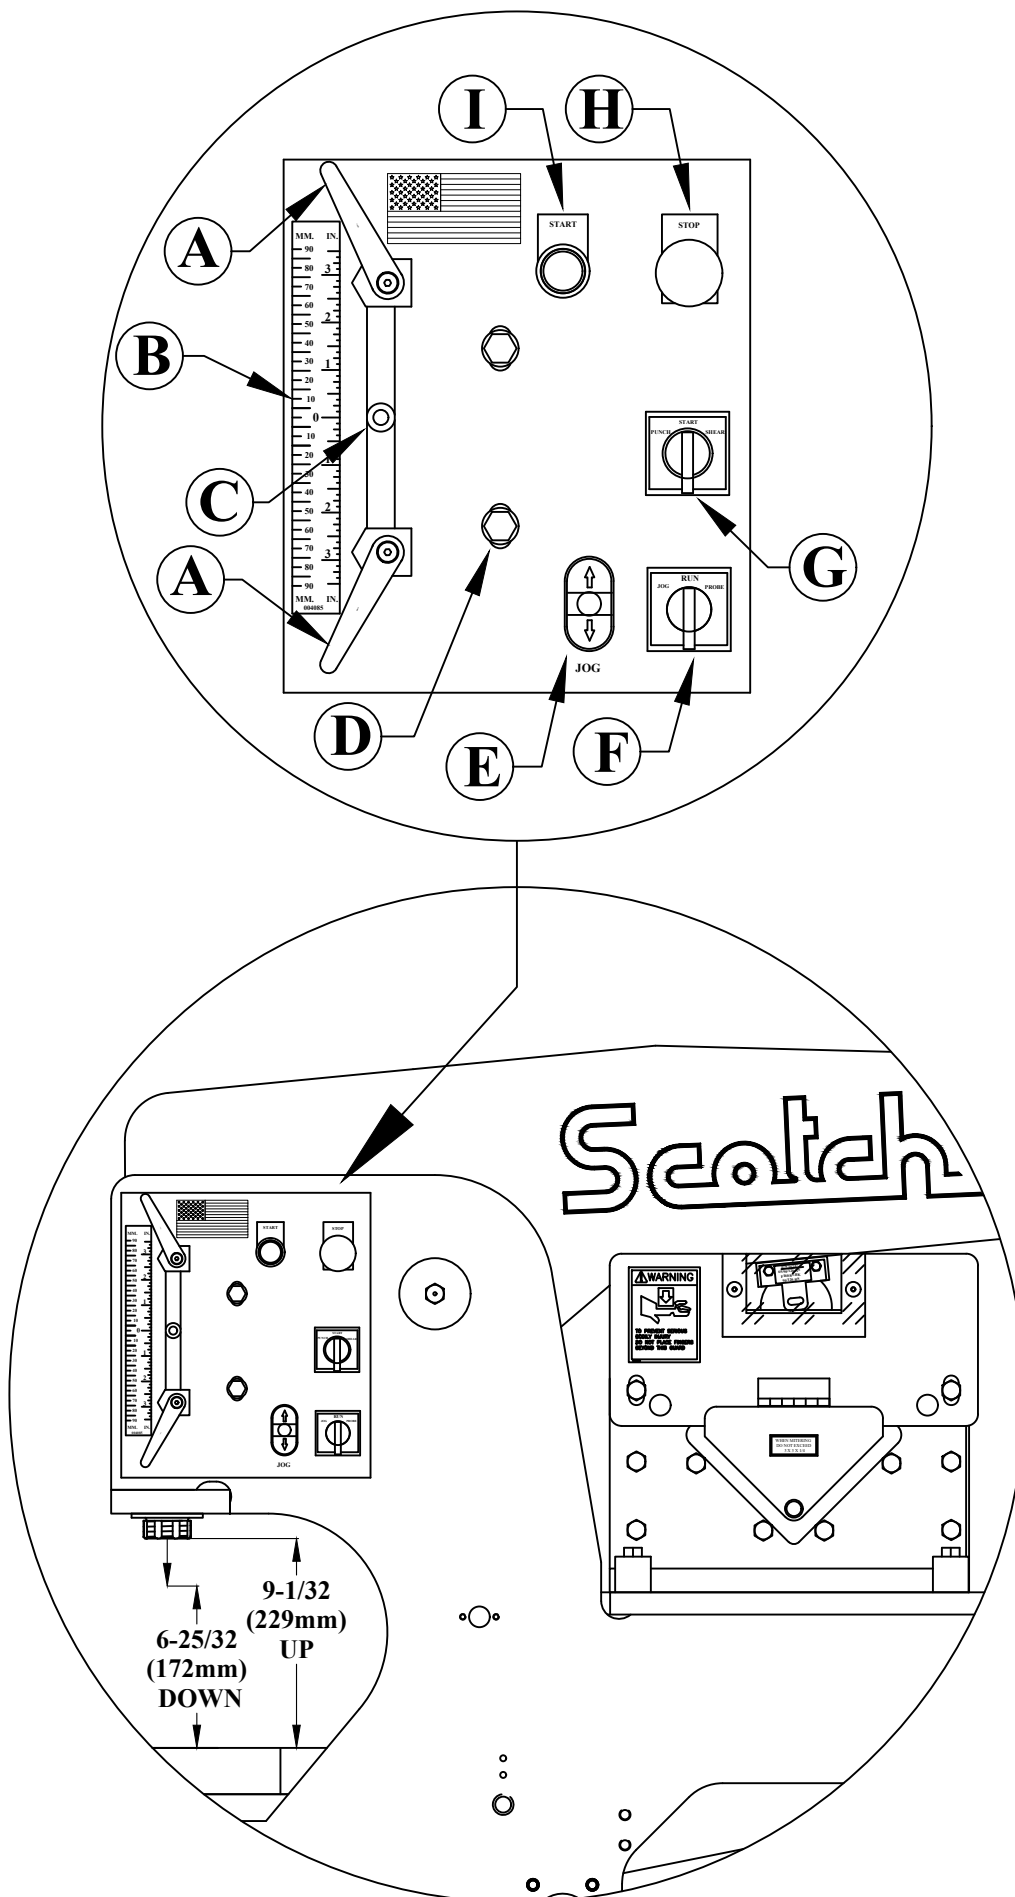

FIGURE 5
A check of the machine's stroke setting is made at the punch station; SEE FIGURE 5 ON THE FOLLOWING PAGE. Set the stroke control handles (A) out to their farthest position. Turn the selector switch (G) to the START position and power the machine. Then place this switch in the SHEAR position. Measure the distance from the top of the punch bolster to the bottom of the punch ram. The distance should be 9-1/32 inches (229mm). Turn the selector switch to the PUNCH position and measure the distance. The distance should be 6-25/32 inches (172mm).
- 1. Loosen the two mounting plate screws (D) that hold the mounting plate to the machine. SEE FIGURE 5 ON THE FOLLOWING PAGE.**